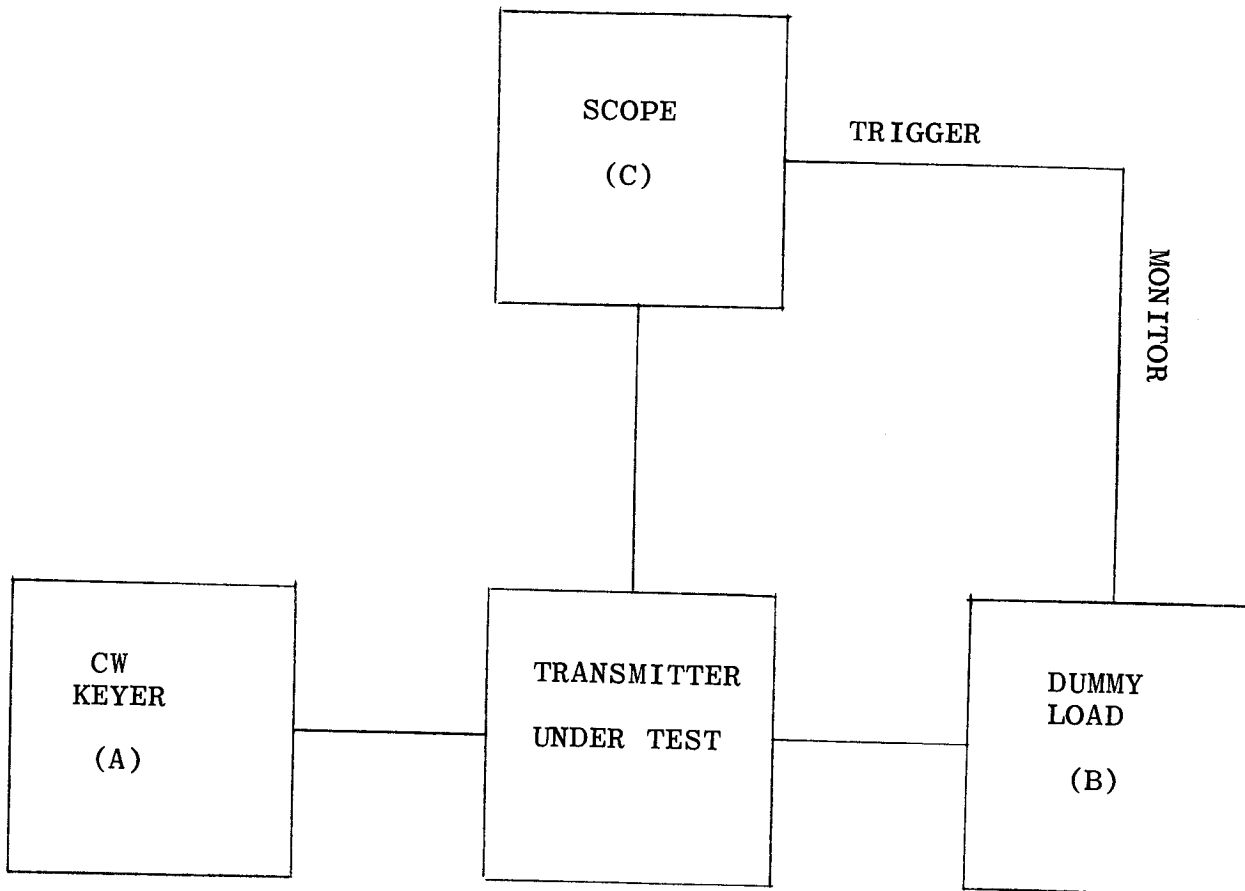

FIGURE 2.7
- a. Connect equipment as show in Figure 2.7.